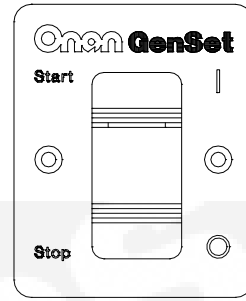

FIGURE 5-5. REMOTE SWITCH
- Remote switch / status lamp (Figure 5-5).